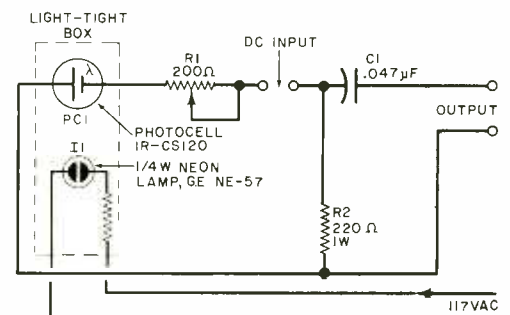

Fig. 2. Photoelectric chopper for converting dc to amplitude-variable ac for oscilloscope.
**Choppers.** When the circuit shown in Fig. 2 (called a photoelectric chopper) is used with a conventional ac-type oscilloscope, the latter can be used to display dc signals. The photocell, *PC1*, is optically coupled to a 1/4-watt neon lamp, *I1*. Since the cell is gated on and off by the neon lamp's flicker frequency of 60 Hz, a dc signal applied to the input of the circuit is chopped and appears as ac across *R2*. High dc input provides an analog increase in the amplitude of the ac output. This arrangement works well in many non-critical applications. The excitation current can be derived from the scope's power supply.